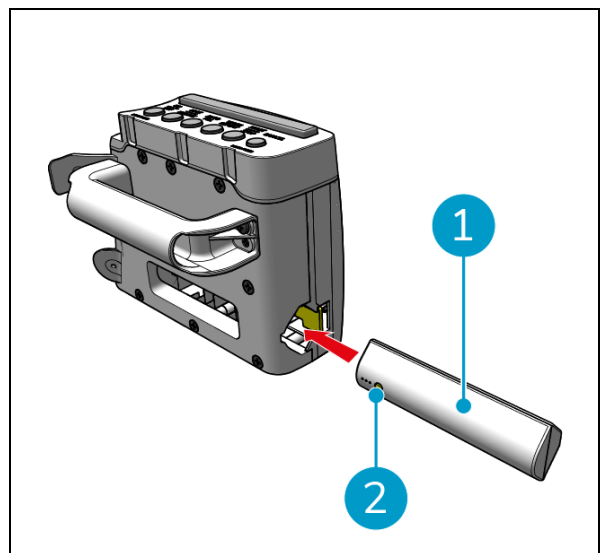

Figure 12
4. Press the power button (Figure 12, pos. 2) on the battery for the handle controller (Figure 12, pos. 1) to turn it on.